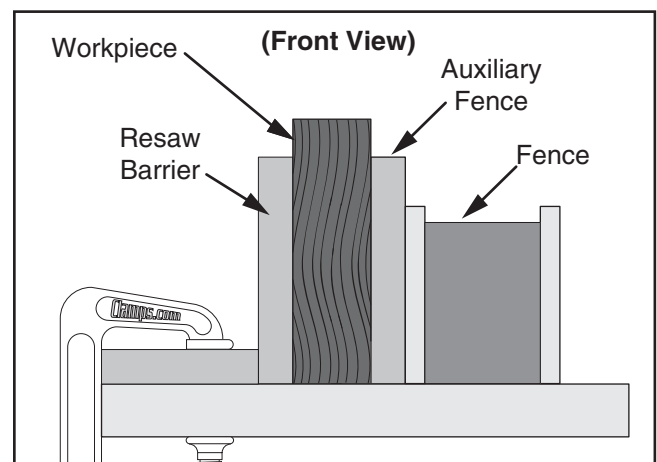

Figure 56. Ideal resaw workpiece setup.
4. Place the workpiece against the auxiliary fence and slide the resaw barrier against the workpiece, as shown in **Figure 56**. Now clamp the resaw barrier to the top of the table saw at both ends.